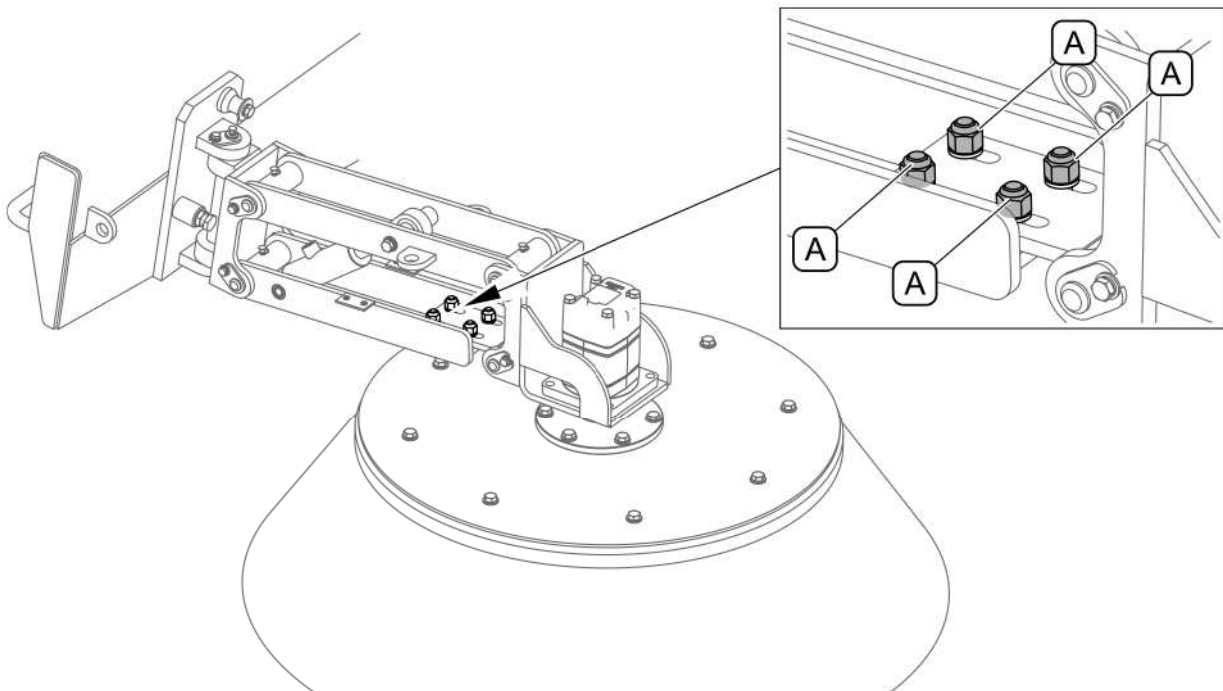

FIG. 5.5 Adjustment of longitudinal inclination of disc brushes
In order to adjust longitudinal inclination (FIG. 5.5), loosen nuts of bolts (A) (4 nuts for the right brush and 4 nuts for the left brush) and then, move securing bracket forwards or backwards. Longitudinal inclination of the right and left brush is set in the same manner. After adjustment, tighten nuts of bolts (A).